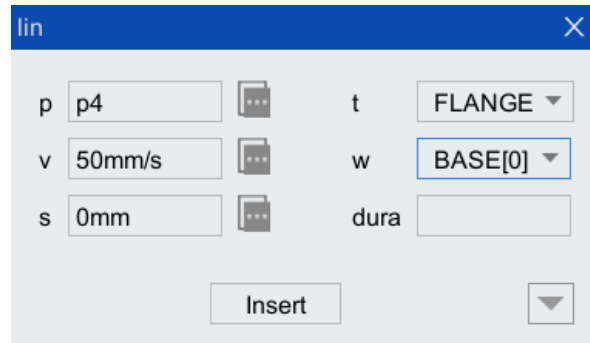

Figure 10-11 The lin instruction configuration interface
Step5. Click [lin] to pop up the lin configuration interface (as shown in Figure 10-11), complete the parameter configuration, and click <Insert > to generate the first track start instruction.